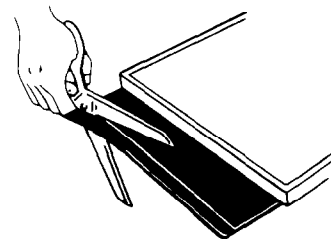

FIGURE 16
- Use a pair of scissors and cut toe plate along this line. See Figure 16.